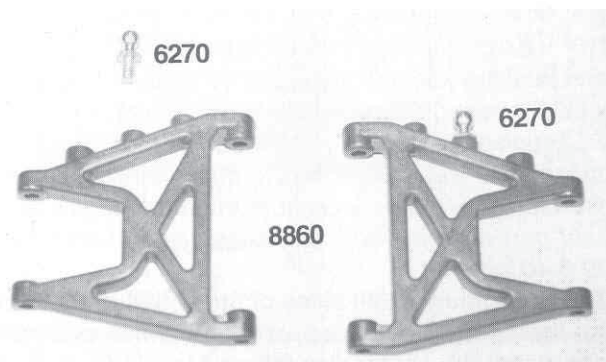

Fig. 68
❑ **Fig. 68 & 69** 1) Now open bag #8-8 which has all the rear end parts. Remove the two #8860 rear suspension arms, two #8862 rear inner hinge pins, two #8864 rear outer hinge pins, the #6360 rear suspension mounts, and four #6299 1/8" E-clips. Remember, the E-clips will be a very small roll held together with white tape.
6) Now trim the mold runner that connects the #6360 rear suspension mounts together. 7) Each rear mount has 1.5° of rear toe-in built in, giving the car a total of 3° of rear toe-in. This means there is a right and left mount. These can be identified by looking for the "R" and "L" molded into the bottom of the mounts. To make sure that everything is laid out correctly, the front of each mount is thicker than the back when looked at from a side edge view. Lay them out according to fig. 68 when you have everything identified.